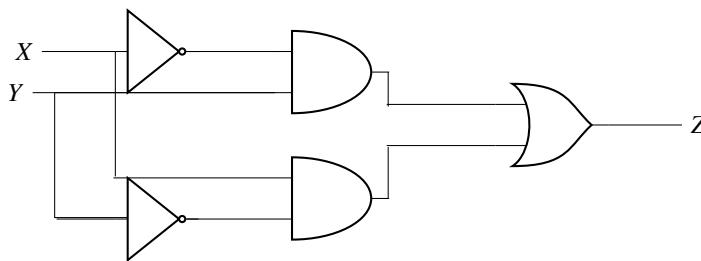

Fig. 4.16
30. In the circuit shown below in Fig. 4.16, X and Y are digital inputs, and Z is a digital output. The quivalent circuit is a (GATE EE 2019)